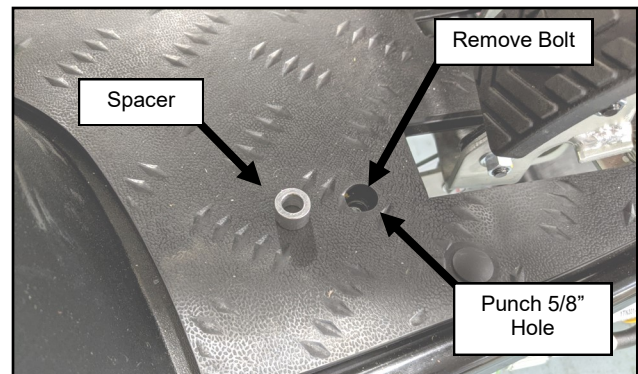

Fig. 1.4 (Punch Hole in Right Floor Mat)
- 1.4 Remove and save all the fir tree clips from the right floor mat and temporarily remove the mat. Punch a 5/8" hole in the center of the underside-indent in the mat in the location shown. See Figure 1.4.
- 1.5 Remove and discard the M8 bolt in location shown in Figure 1.4.